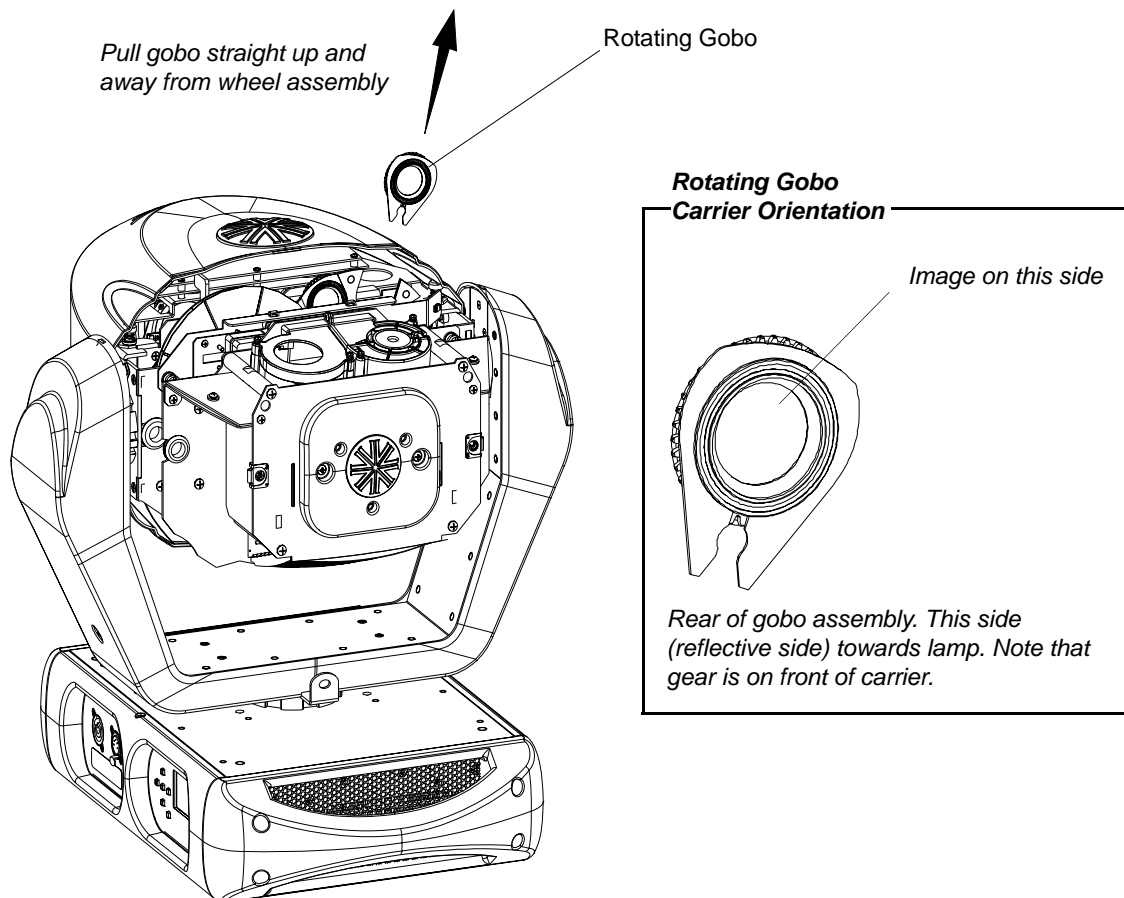

Figure A-8: Removing / Installing Rotating Gobos
- Step 3. At rotating gobo wheel, slowly rotate wheel by hand until gobo to be removed is at top of assembly as shown in Figure A-8.